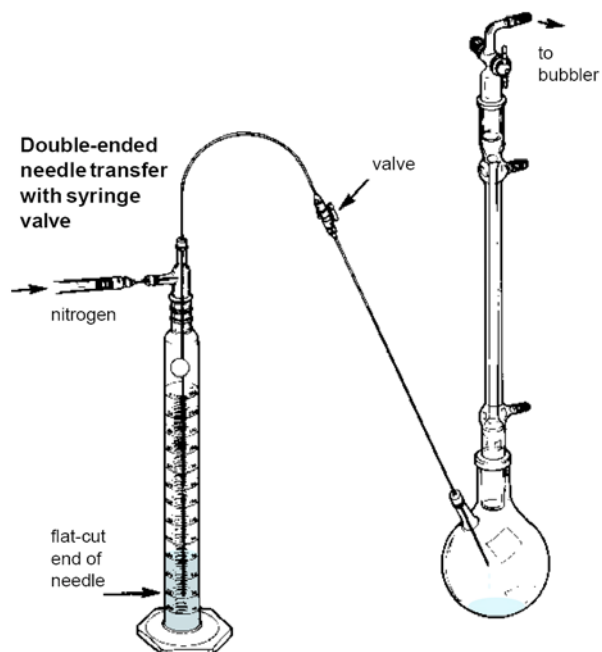

Fig. 3C Double-ended needle transfer with syringe valve
- To control flow rate, fit a Luer lock syringe valve between two long needles as shown in (Fig. 3C).